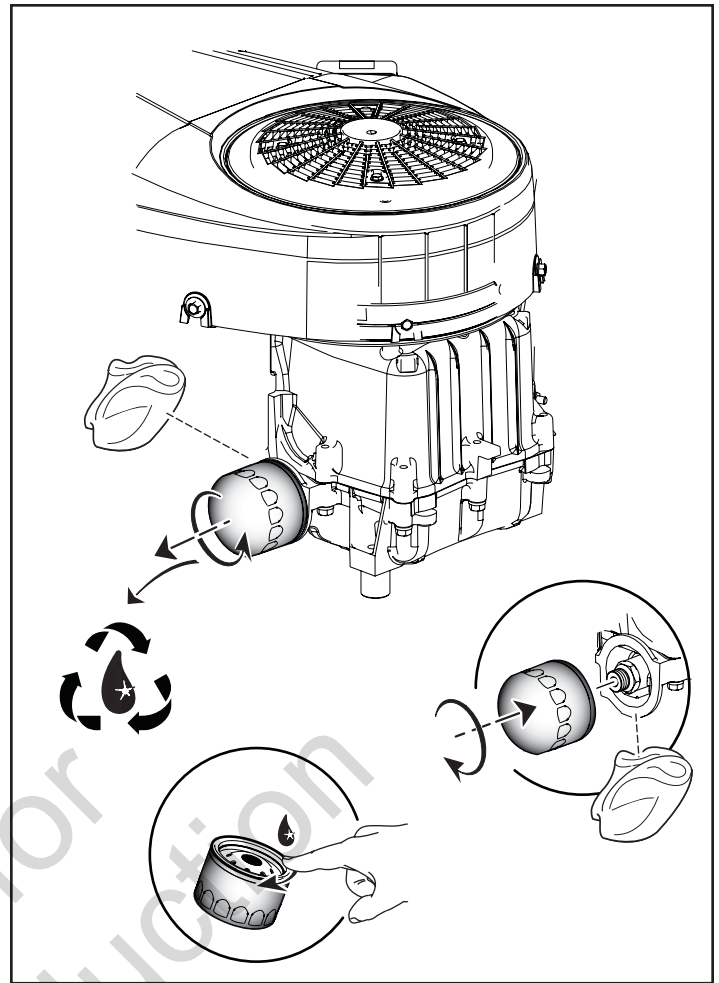

Figure 10
7. Lightly lubricate the oil filter gasket with fresh, clean oil (see Figure 10).